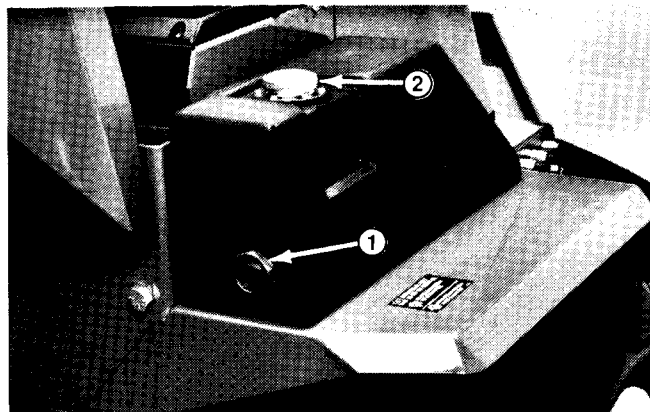

Figure 50
4. With machine on a level surface, fill reservoir with hydraulic oil until oil level is midway up in sight glass (Fig. 50). Install fill cap.